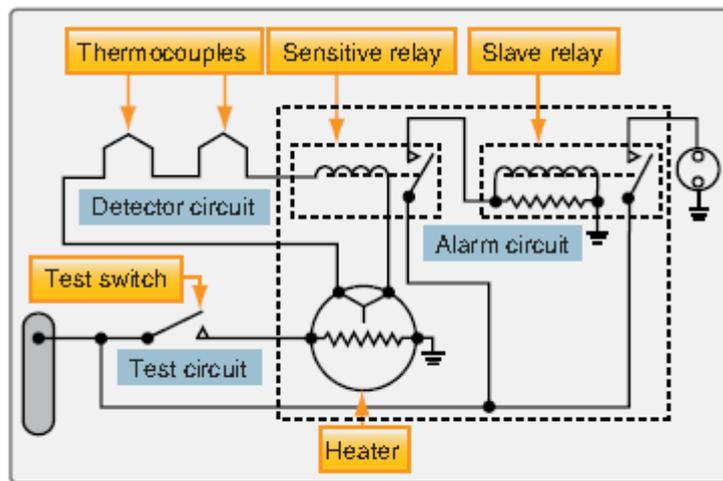

Figure 17-2. Thermocouple fire warning circuit.
3. These circuits are shown in *Figure 17-2*. The relay box contains two relays, the sensitive relay and the slave relay, and the thermal test unit.